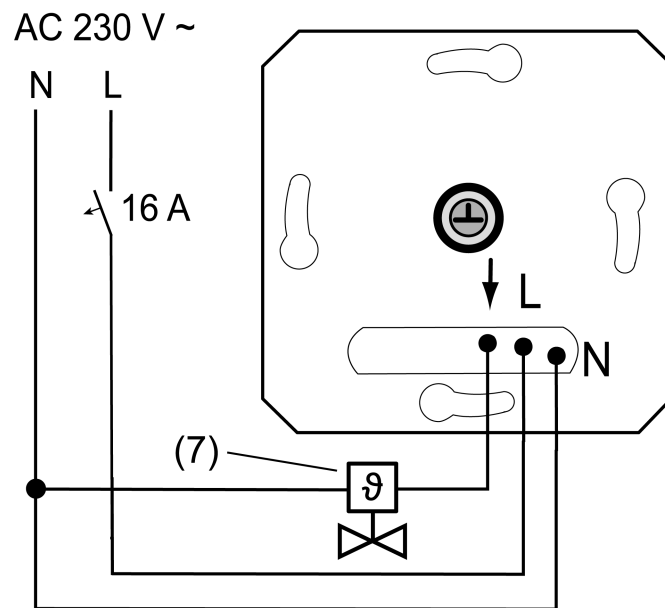
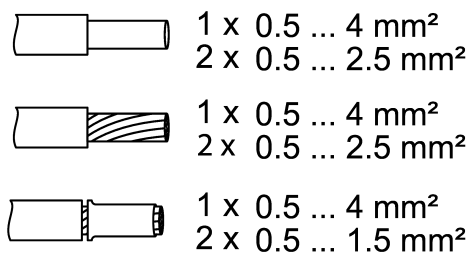

Figure 2: Connection example of the insert
Figure 3: Clampable conductor cross-section
- Connect electrothermal valve drive (7) to insert (1) according to connection diagram (see figure 2). Observe the conductor cross-sections (see figure 3).
- Fit cover frame (2), central plate (3) and control knob (4).